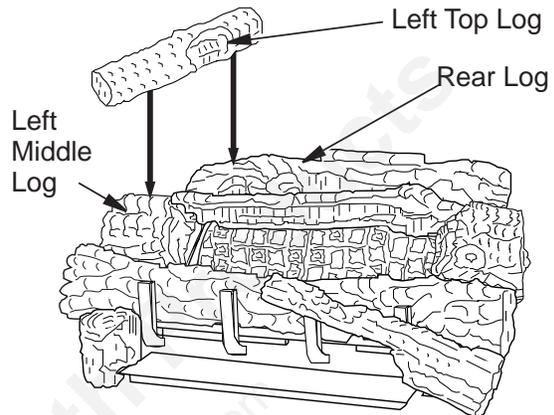

Figure 34 - Installing Left Top Log
10. Place the left top log (D-046) onto the rear log and the left middle log. Make sure to place the projection on the bottom of the left top log into the recessed areas on the rear and left middle logs (see **Figure 34**).